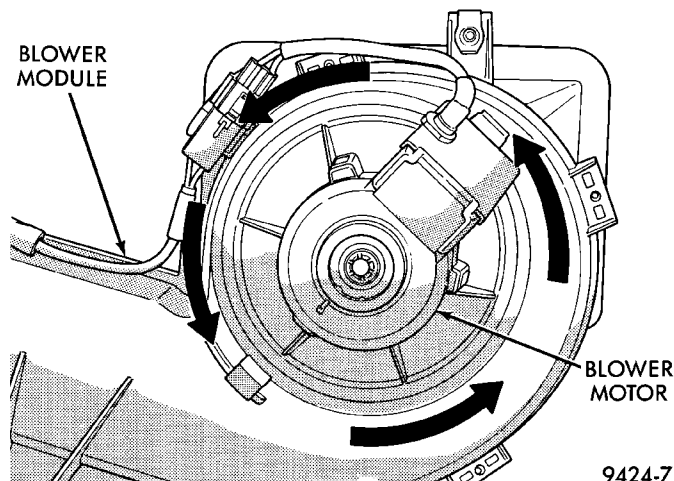

Fig. 22 Blower Motor Removal
- (1) Disconnect blower motor wiring connector.
- (2) Grasp the blower motor while pulling down tab. Turn approximately 1/8 turn counterclockwise and remove blower motor assembly from unit housing (Fig. 22).